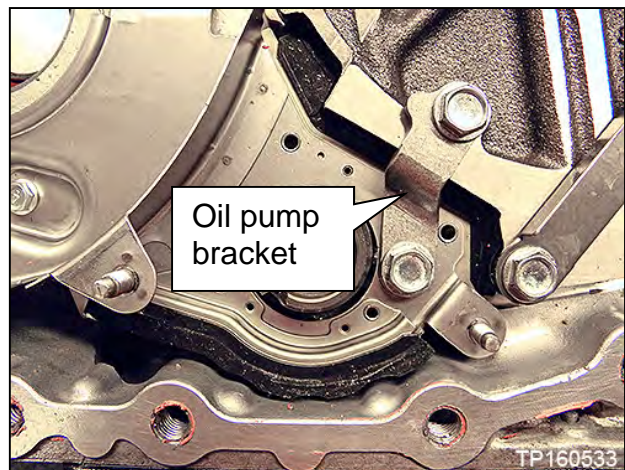

Figure 47
c. Oil pump bracket (Figure 47).